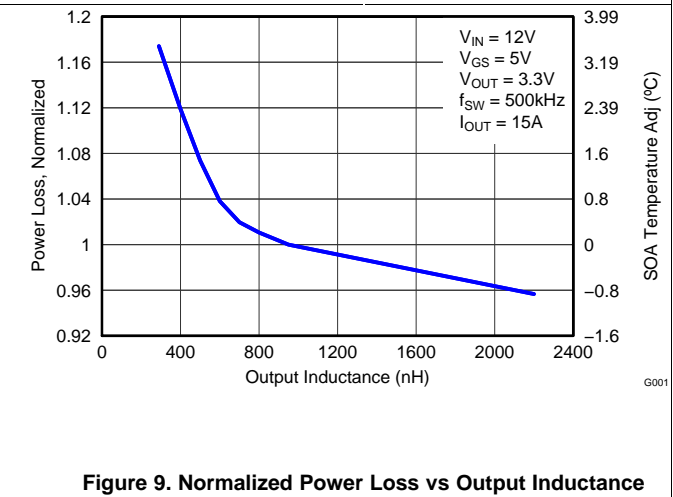

Figure 9. Normalized Power Loss vs Output Inductance
The Typical Power Block System Characteristic curves (Figure 1 through Figure 9) are based on measurements made on a PCB design with dimensions of 4.0-inch (W) × 3.5-inch (L) × 0.062-inch (H) and 6 copper layers of 1 oz. copper thickness. See Applications for detailed explanation. $T_A = 125^\circ\text{C}$, unless stated otherwise.
- Normalized Power Loss for output inductor \approx 1.03 (Figure 9)
- SOA adjustment for output inductor \approx 0.8°C (Figure 9)